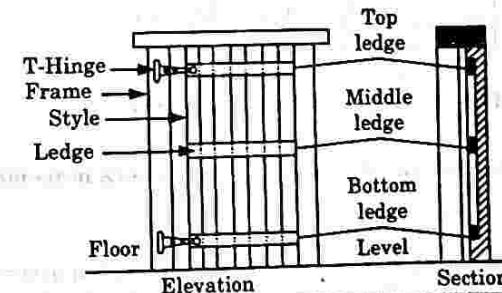

Fig. 4.3.3. Ledged, Braced and Framed Door.
- vi. Fig. 4.3.3 shows the elevation and cross section of this type of door.